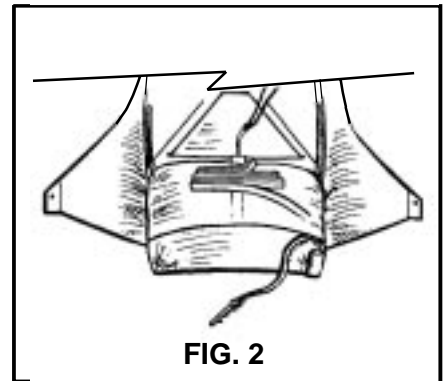

FIG. 2
2. Thread the pull-up cord through the closing loop and lay it back across the reserve container temporarily to keep it out of the way. Arrange the bridle in folds 6 to 8 inches long. Lay the folded bridle across the upper part of the bag as shown in (**FIG. 2**).